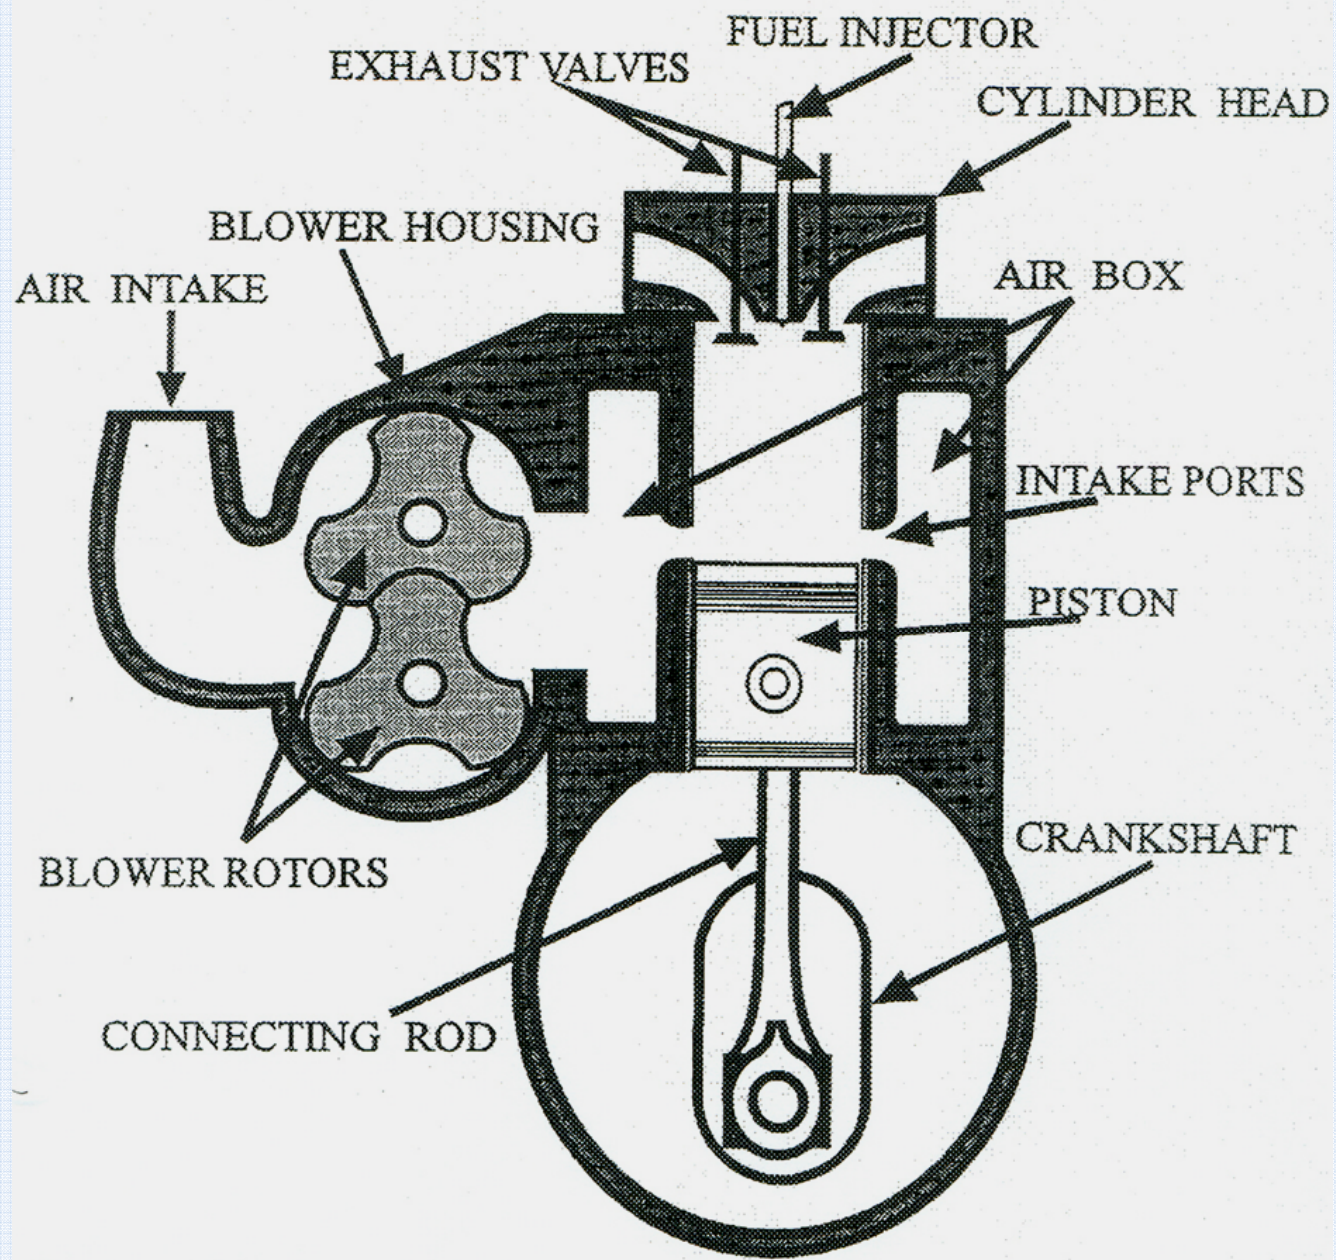

Figure 2-15
- The configuration and sequence of events that occur in an EMD 2-stroke cycle engine are illustrated in Figures 2-15 through 2-18.